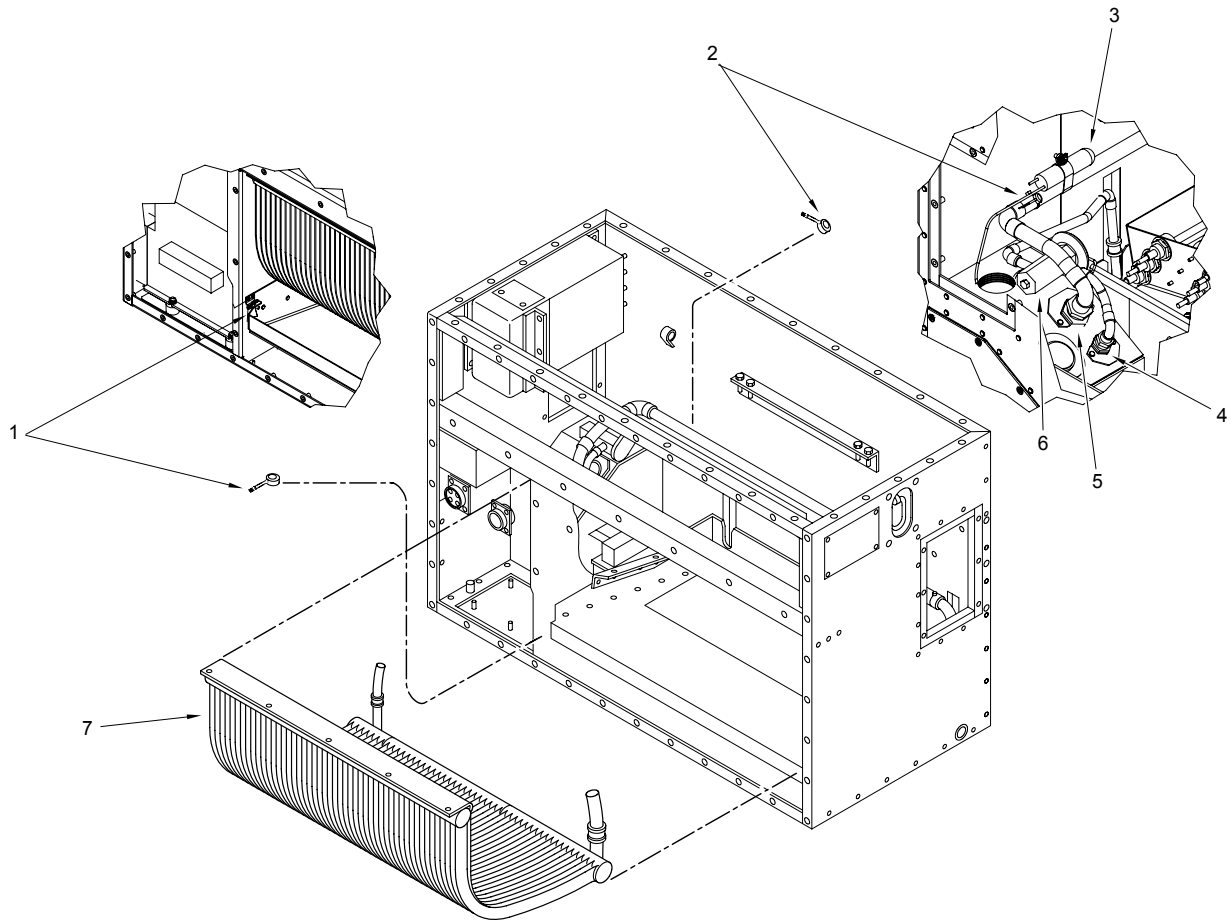

Figure 2. EVAPORATOR COIL ASSEMBLY
7. Loosen the screws and nuts in the bulb straps that attach the sensing bulb (3) to the suction line, and pull the bulb (3) and thermistor TS1 (2) out of the straps. Take care to note the position (center top of suction line) of the bulb. See Figure 2.
8. Note exact position of thermostatic valve (6) on Refrigerant R-410A line. See Figure 2.
9. Wrap wet rags around thermostatic valve (6) body and distributor tubes. See Figure 2
11. Remove thermostatic valve (6). See Figure 2.
12. Remove tape (black cork tape) securing thermistor RV2 (1). See Figure 2.
13. Remove RV2 (1). Figure 2.
4. Wrap wet rags around thermostatic valve (6) body and distributor tubes. See Figure 2.
6. Slip the sensing bulb (3) and thermistor TS1 (2) into its mounting straps. Be sure the bulb is on top of the suction line in original position and tighten the nuts and screws. Be sure the sensing bulb is making good metal-to-metal contact with the suction line. See Figure 2.
7. Replace the insulation tape that was removed from the sensing bulb (3) and thermostatic valve (6) connections.
8. Carefully place the evaporator coil, tubing, and fittings into the housing. See Figure 2.
13. Line up coil assembly (7) and housing screw holes. See Figure 2.
14. Fasten coil (7) to housing with screws and washers.
17. Carefully reconnect the low (4) and high (2) condenser to evaporator Refrigerant R-410A metal hose line connectors to the coupling halves.
18. Install thermistor RV2 (1) at lower left side of coil. See Figure 2.